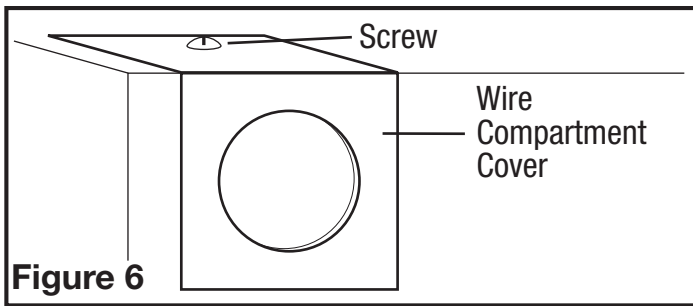

Figure 6
1. Remove the wire compartment cover screw and place cover in a secure place (Figure 6).